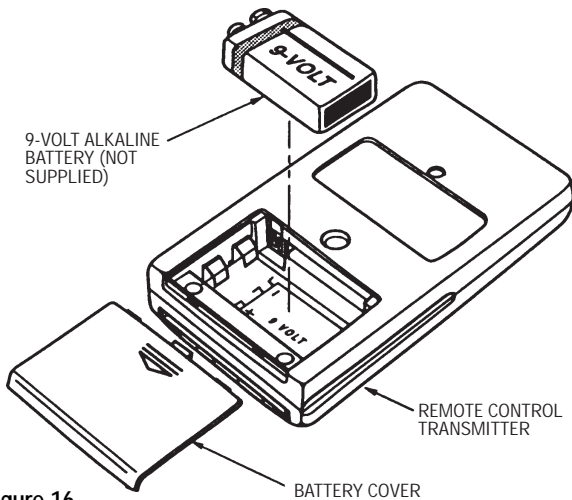

Figure 16
3. Engage the connector in the transmitter with the terminals of a 9-volt alkaline battery (not supplied) (Figure 16).